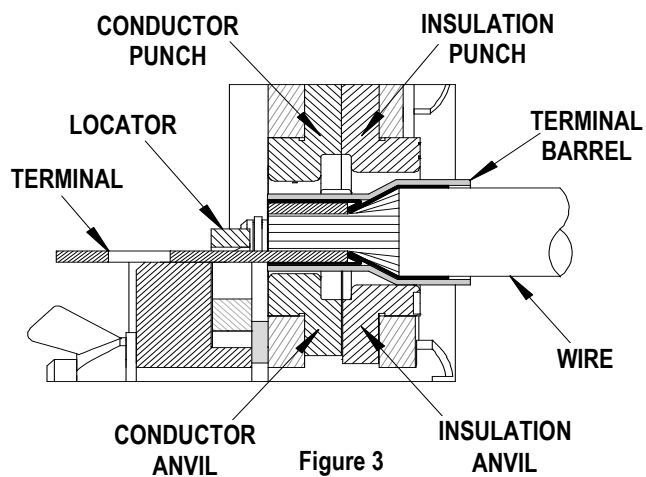

Figure 3
3. Push on the wire to assure it is fully seated in the terminal. See Figure 3. The wires end should butt against the locator. Cycle the tool.